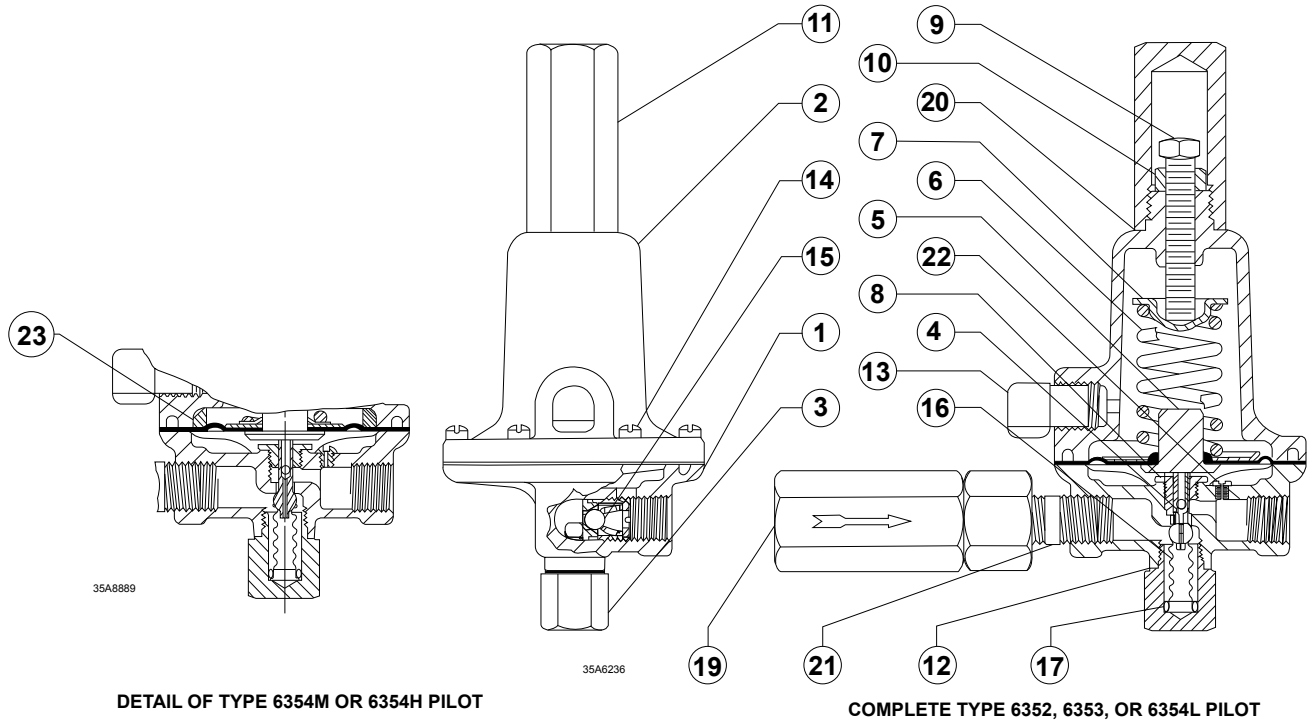

Figure 3. Types 6352 through 6354H Pilot Assemblies
or replacing any other pilot parts. Pilot part key numbers are referenced in Figure 3.
The body (key 1) may remain on the pipe nipple (key 21, Figure 3) unless the entire pilot is replaced.
1. To gain access to the diaphragm assembly (key 5), diaphragm limiter (key 23) if used, control spring (key 6), restriction (key 22), stem guide (key 8), or spring seat (key 7), remove the closing cap (key 11), loosen the locknut (key 10), and turn the adjusting screw (key 9) counterclockwise until compression is removed from the spring. Remove the machine screws (key 14), and separate the body from the spring case (key 2).
3. To replace the valve plug (key 4) or bellows O-ring (key 17), remove the body plug (key 3) and body plug gasket (key 12). Be careful to keep the bellows assembly (key 16) from falling out and possibly getting lost while removing the valve plug. Inspect the removed parts, and replace as necessary. Make sure the valve plug seating surfaces are free from debris.
Types 6352, 6353, 6354L, 6354M, and 6354H Pilots (Figure 3)
Types 6352, 6353, 6354L, 6354M, and 6354H Pilots (Figure 3) (continued)
The following parts are for Type 6353 only (not shown in Figure 3)